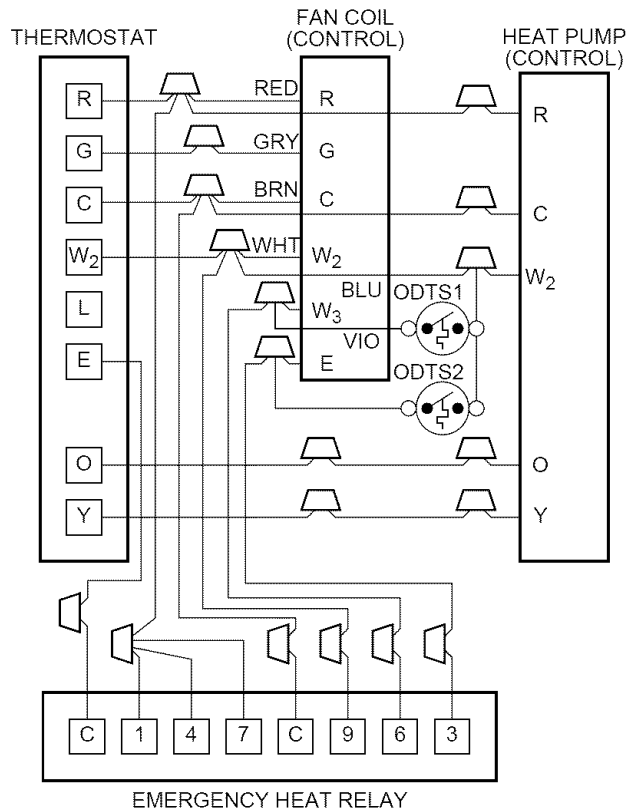

Fig. 12—Wiring Layout Heat Pump Unit (Cooling and 2-Stage Heat with 2 Outdoor Thermostats)
3. Heater Staging—The controls are factory-circuited for single-stage operation. For 2-stage operation, use outdoor thermostat kit KHAOT0301FST, and for 3-stage use both kits KHAOT0201SEC and KHAOT0301FST. When 2 stages are desired, cut W3 at the W2 wire nut, strip and reconnect per the thermostat kit instruction. (See Fig. 11.) When 3 stages are desired, cut the W2 wire nut off and discard. Strip W2, W3, and E and reconnect per thermostat kit instructions. (See Fig. 12.)